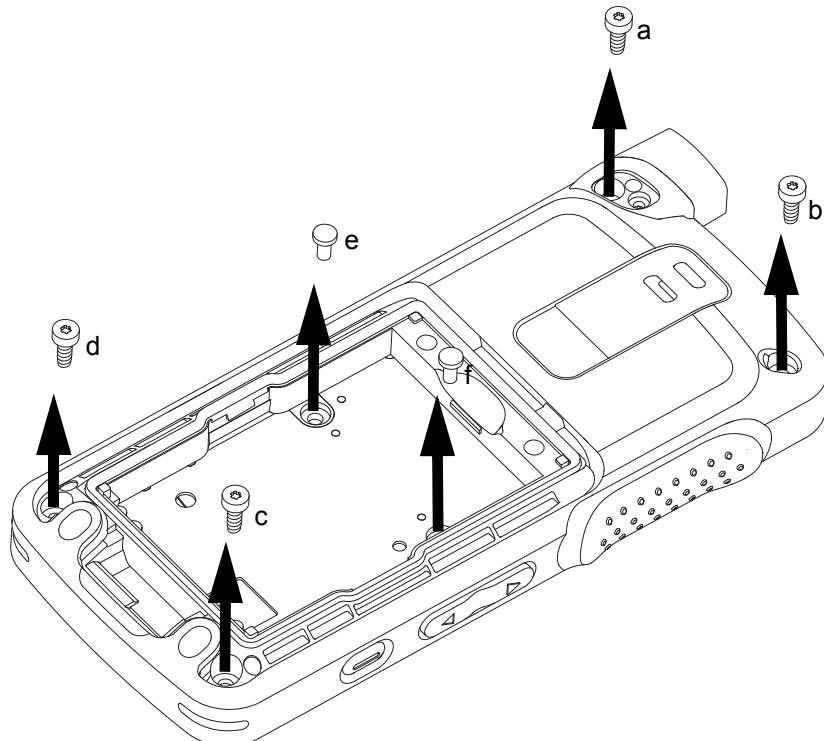

Figure 5-7. Self tapping screws and machining screws removal
4. Remove the self tapping screws from four corners of the back housing marked (a, b, c, d) by using the 6IP Torx Plus as shown in Figure 5-7.
5. Remove the two machine screws in the battery compartment marked (e and f) by using the 6IP Torx Plus as shown in Figure 5-7.